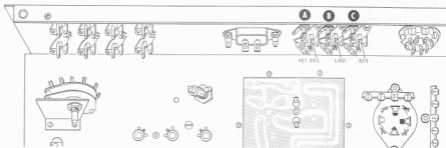

Figure 3-12
- () On the inside of the rear panel, refer to Figure 3-12 and connect a 100 Ω (brown-black-brown) resistor from the center lug of the HET OSC socket (S-1) to the center lug of socket A (S-1).